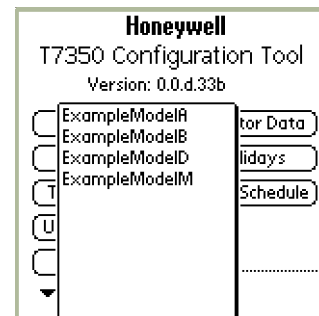

Fig. 27. PDA configuration tool main menu.
1. Enter the T7350 PDA application. (See Fig. 27.)